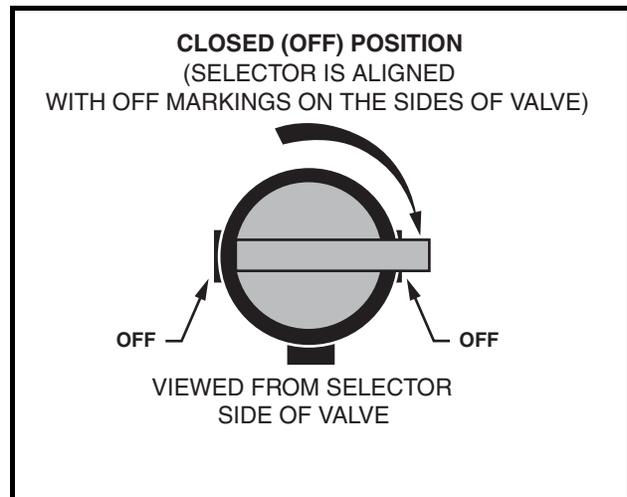

Figure 3-5 Fuel Shut-Off Valve – Closed Position
- Gasoline vehicles only: Turn fuel shut-off valve to the closed (OFF) position (Figure 3-5, Page 3-4).